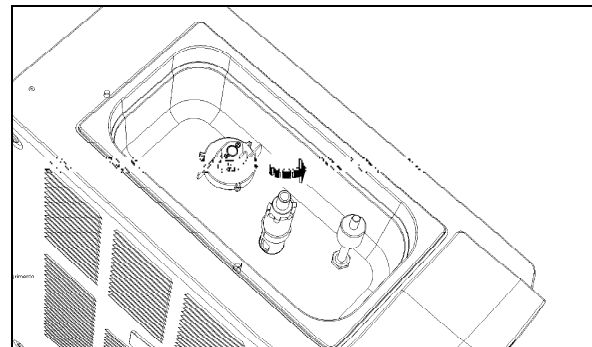

Fig. 10
- Lifting and turning the upper part of the tube counter clockwise (fig. 10), and positioning the pin on the notches which become gradually higher, increases the amount of mix that can flow into the freezing chamber so changing the consistency and the bulk of the same.